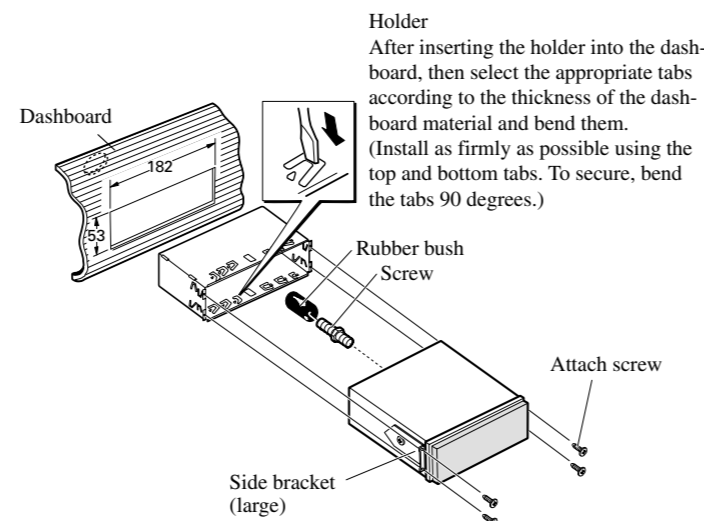

Fig. 9
3. Fastening the unit. (Fig. 9)